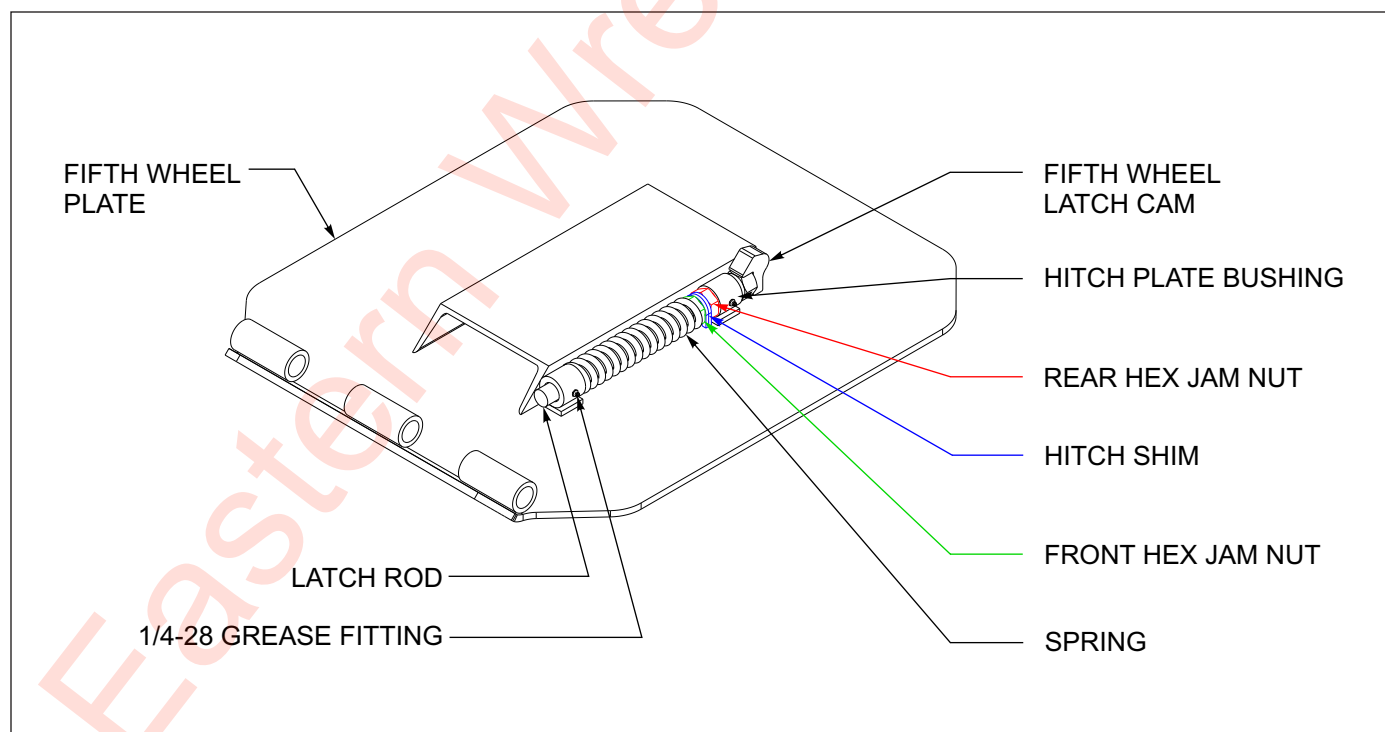

Figure 4-2: Fifth Wheel Latch Adjustment
1. To adjust fifth wheel latch assembly, support fifth wheel plate and adjust rear nut until the cam just touches the flat surface on the latch (See Figure 4-2.)